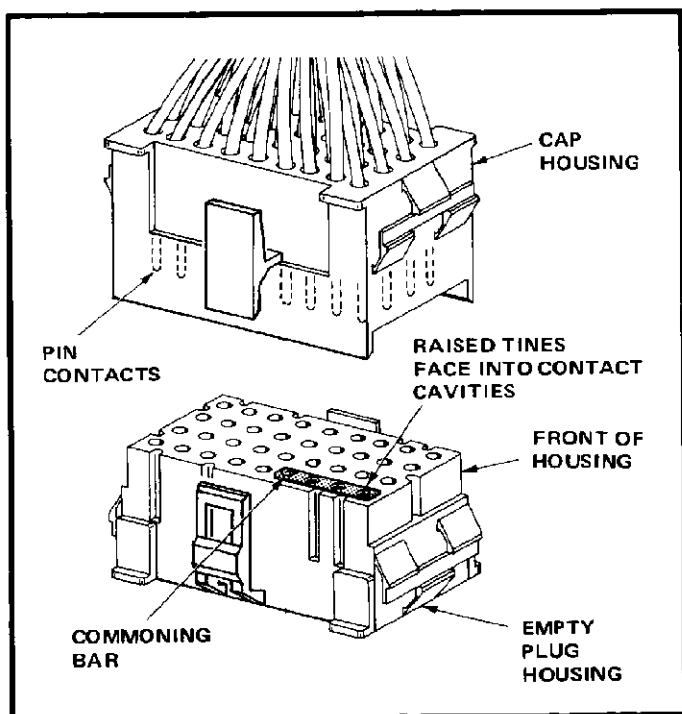

Fig. 3
1. Place an empty plug housing on a flat surface with FRONT of housing facing UP (see Figure 3).